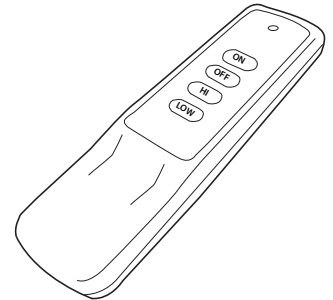

Fig. 27 Transmitter
3. Press the **ON** button on the transmitter (Fig. 27) You will hear the ignitor probe begin sparking for 15-seconds and the fire pit will turn ON.